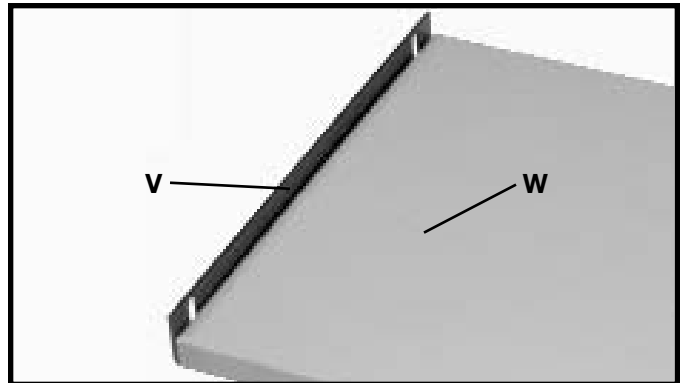

Fig. 17
11. Fasten lower shelf bracket (V) Fig. 17, to one end of lower shelf (W) using two #8x7/8" wood screws supplied as shown in Fig. 17. **IMPORTANT:** The side of the bracket (V) Fig. 17, with the narrow slots should be fastened to the table.
12. Fasten bracket (V) Figs. 17 and 18, to saw cabinet as shown using two 1/4-20 x 5/8" hex head screws, two flat washers, and hex nuts. Place a flat washer onto a screw and insert screw through bracket and mounting hole in saw cabinet, then tighten a hex nut onto bolt, repeat this same procedure for the other hole.